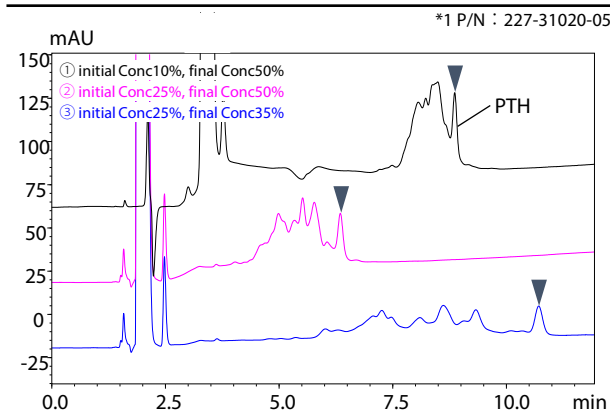
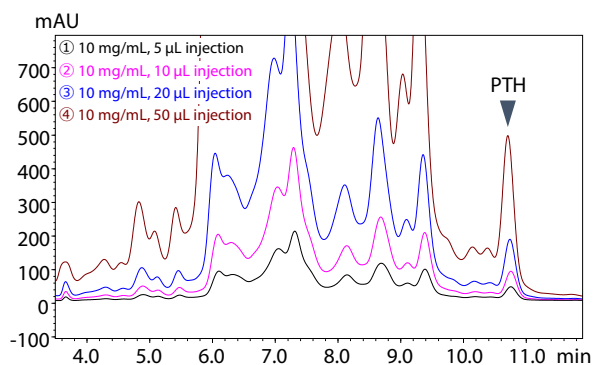

Fig. 2 Result of optimization for separation conditions
Fig. 3 Result of evaluation for loading amount
Separation conditions for a crude synthetic sample containing the target synthetic peptide (parathormone (1-34): PTH) were investigated in an analytical scale. Fig. 2① shows a UV chromatogram (analytical conditions: Table 1) of the sample before separation conditions were optimized. Under these conditions, the separation between PTH and co-existing impurities was not sufficient, and increased loading amount would deteriorate the separation from impurities furthermore, so improving the separation was essential to recover PTH with high purity.
The best result for the separation of PTH (blue arrow) and impurities in the synthesized crude sample were obtained under conditions of 25% initial concentration and 35% final concentration of organic solvent (Fig. 2 ③).
Under the conditions optimized in analytical scale (③ in Fig. 2), the loading amount was investigated at injection volumes of 5, 10, 20, and 50 μL using a synthetic sample (10 mg/mL) (Fig. 3). Since the separation of PTH did not deteriorate as the injection volume was increased, it was decided to scale up and perform preparative analysis with 50 μL of injection volume.